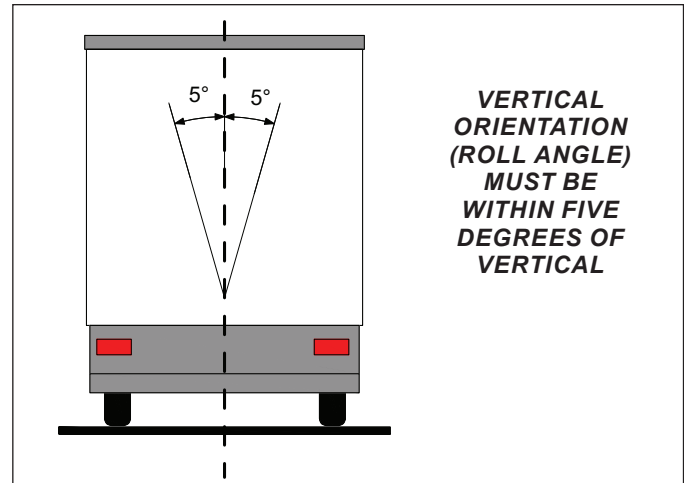

Figure 16 – Installation on Trailer (Vertical)
1. The TABS-6 Advanced MC module shall be installed with the following considerations (see Figures 16 through 18):